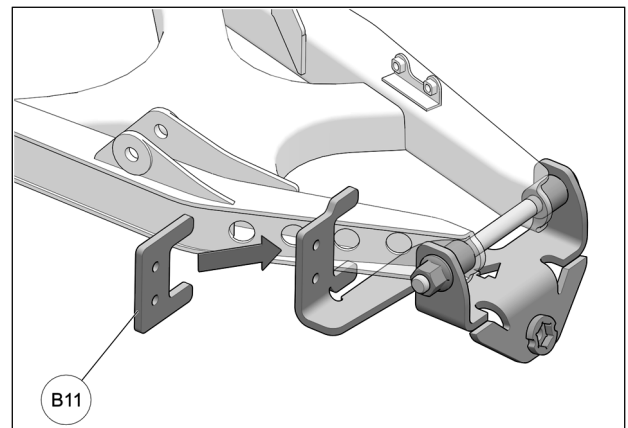

Fig. 9
10. Install spacer plate (**B11**) against C-shaped back end of bracket. Align holes. See Fig. 9